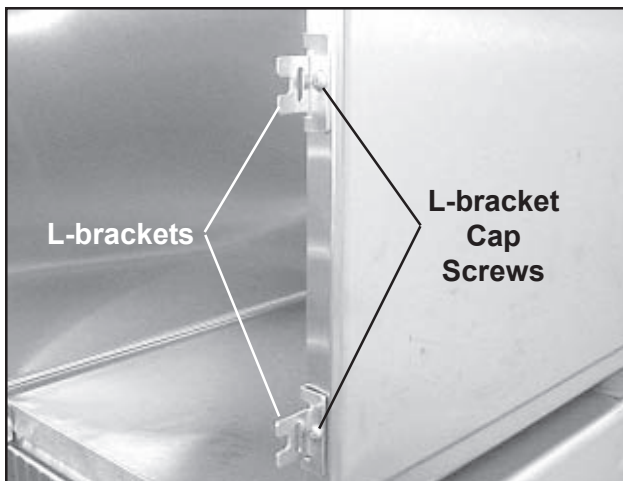

Figure 16. Removing the L-brackets
3. With a Phillips screwdriver, remove the cap screw that holds the L-bracket in place, and remove the L-bracket (Figure 16).